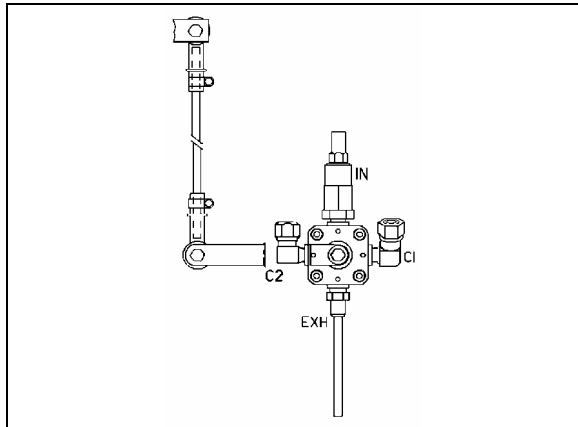

FIGURE 32: FRONT HEIGHT CONTROL VALVE 16100
2. Loosen the clamp on the height control valve rubber coupling and bring it up or down (Fig. 32).